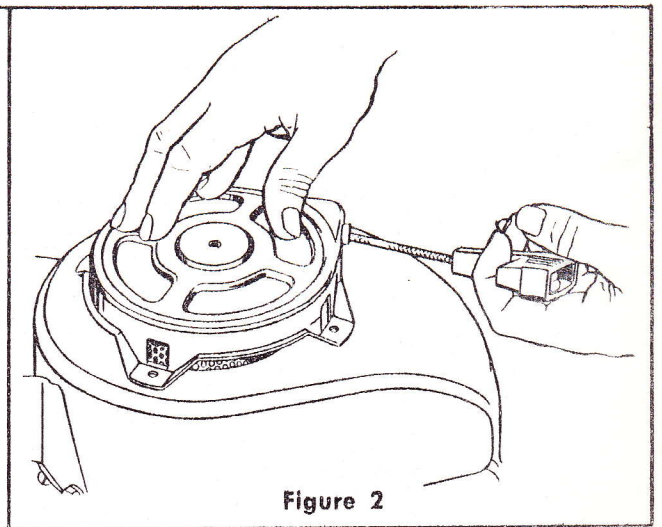

Figure 2
2. After replacing housing on engine, place starter on engine (Fig. 2 shows engaging dogs on starter pulley so starter is in position). (Pull rope out about two feet, place over pawls and allow rope to retract. This will engage pawl drive to pawls, center the starter and mark the location for the mounting studs.)